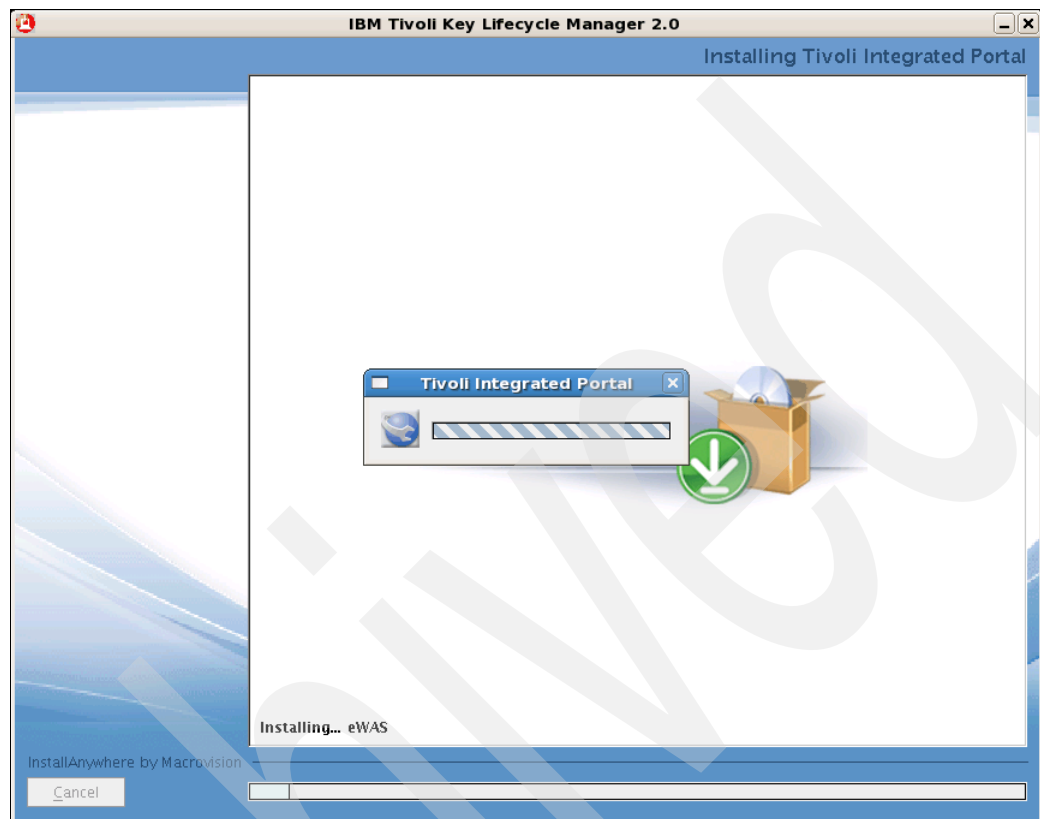

Figure 7-19 TIP installation progress
22. Progress of the installation is displayed on the screen, as shown in Figure 7-19. Depending of your server characteristics, the process might take a while. Do not touch the keyboard or mouse while installation is under way, just leave it running.